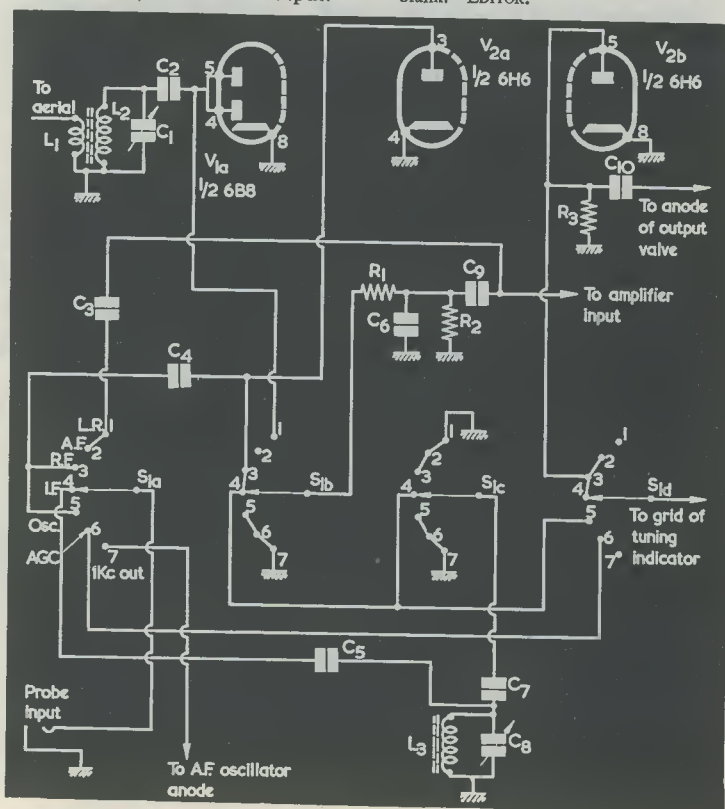
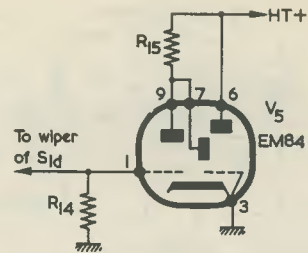

Fig. 1. The input switching circuits of the "Tracos" signal tracer-oscillator
Fig. 4. The tuning indicator section
The input switching section of the instrument is shown in Fig. 1. The switch used here is a 4-pole 7-position type.1 Pole 1 (S1(a)) switches the connections to the probe. Pole 2 (S1(b)) switches the input of the a.f. amplifier incorporated in the instrument. Pole 3 (S1(c)) switches in coil L3 on position 4, this being the "i.f. tracing" position. Pole 4 (S1(d)) switches the grid of the tuning indicator to various sections of the circuit to monitor signal or a.g.c. level.
2 L1, L2 may be a standard medium or long wave aerial coil according to the wavelength of the desired local station. In parts of the country where the simple tuned circuit shown in Fig. 1 would not be able to resolve the local station clear of interference, a more comprehensive tuning circuit (say, a band-pass pair) may be needed.—EDITOR
- V1(b) ½6B8 (Diode section in Fig. 1)
In position 5 (local oscillator checking) the probe couples, via  $S_{1(a)}$ , to  $C_4$  and the diode  $V_{2(a)}$ . The probe is applied to the local oscillator of the receiver under test and, since this has no a.f. modulation, the detected signal from  $V_{2(a)}$  is not fed to the instrument's amplifier. Instead, it connects to the grid of the tuning indicator which, in the presence of oscillation, gives a deflection. (The diode load resistor for this particular combination does not appear in Fig. 1, and it consists, as shown in Fig. 4, of a  $3M\Omega$  resistor between the grid of the tuning indicator and chassis). This test is very useful as it can eliminate a lot of trouble-shooting in the case of a defective local oscillator.3
Position 7 (1,000 c/s sine wave output) causes the probe to connect, via  $S_{1(a)}$ , to the anode of an a.f. oscillator (not shown in Fig. 1). This oscillator consists of the pentode section of the 6B8, the diodes of which appear as  $V_{1(a)}$  in Fig. 1. Thus, a 1,000 c/s signal is available on the probe for testing a.f. amplifiers.
#### Components List (Fig. 4)
The input of the amplifier is connected, via screened cable, to capacitor  $C_9$  of Fig. 1.6 The anode of the output valve couples to  $C_{10}$  of Fig. 1.
The tuning indicator circuit is given in Fig. 4. This is quite conventional and requires no further explanation here.
If desired, an additional meter may be fitted to monitor the a.f. output level from the instrument's amplifier. This is not essential, but it enables alterations in a.f. output to be judged more accurately than is possible with the tuning indicator of Fig. 4.